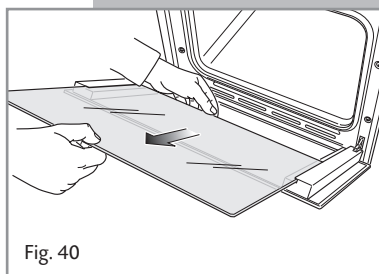

Fig. 40
- Gently pull out the inner pane of glass (Fig. 40).